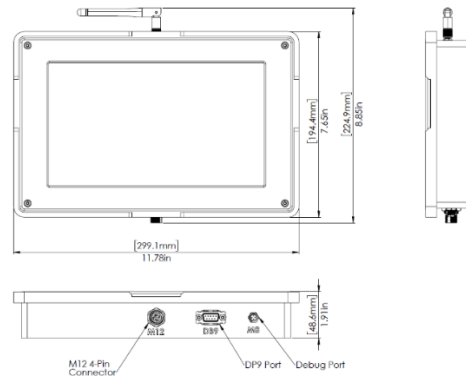
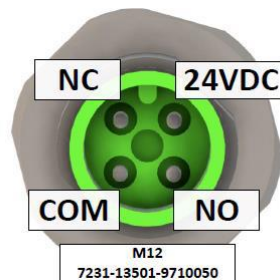
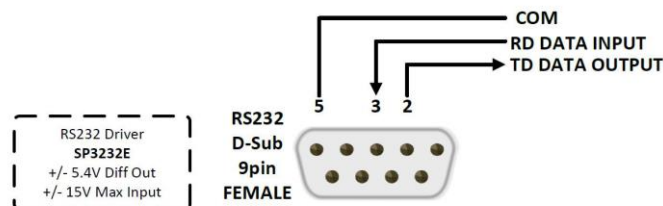

Figure 3
Figure 4
Figure 5
The Base Station requires 24VDC to be powered through the M12 4-pin connection shown in Figure 3. Figure 4 shows the pin pattern for the power and the fault relay.
To wire the Base Station for relay functionality, the 4-pin connector supplying power should be wired to include either a normally open (NO) or normally closed (NC) pinout, see Figure 4 for pin designations.
Connecting to a PLC, utilize the DB9 port shown in Figure 3 and connect to a communication protocol device (ie: ANYBus) via a DTE/DCE RS232 cable. See Figure 5 for pin out of the DP9 port. Follow the communication protocol device manufacturer's pinout documentation. **Note: If needed the data output uses LF+CR termination.**